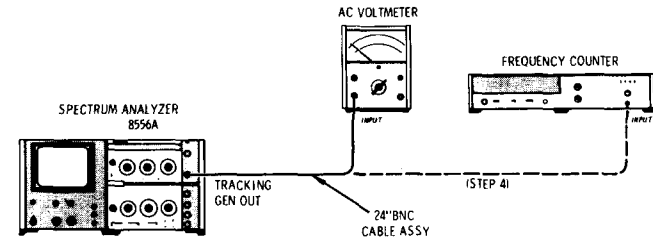

Figure 4-1. Tracking Generator Test Setup
- Connect equipment as shown in Figure 4-1, connecting AC Voltmeter directly to TRACKING GEN OUT with 24" BNC cable.